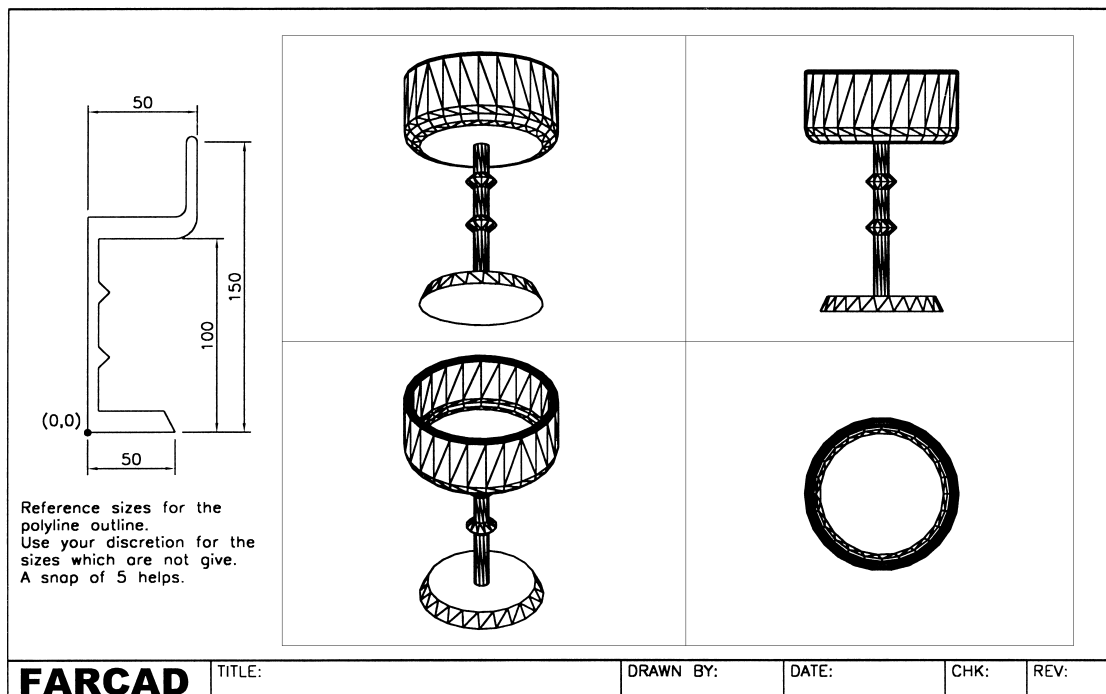

Figure 29.5 Revolved example 1 – a flagon.
- 4 Refer to Fig. 29.5 and draw a **closed** polyline outline using the sizes given as a reference – or design your own